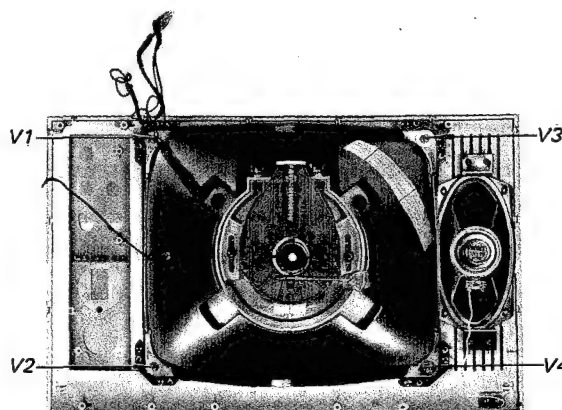

Fig. 2-28.
18. Remove the four nuts labeled V1~4 in Fig. 2-28.
3. Tighten the four nuts as shown in Fig. 2-28.